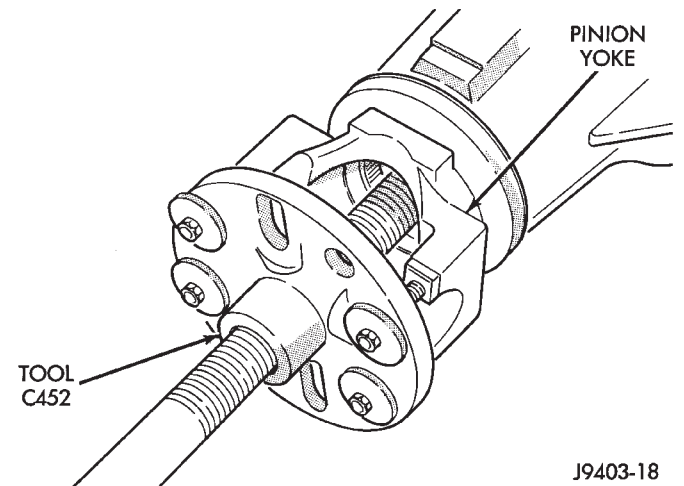

Fig. 24 Pinion Yoke Removal
- (1) Remove differential from the axle housing.
- (2) Mark pinion yoke and propeller shaft for installation alignment.
- (3) Disconnect propeller shaft from pinion yoke. Using suitable wire, tie propeller shaft to underbody.
- (4) Using Yoke Holder 6719 to hold yoke and remove the pinion yoke nut and washer.
- (5) Using Remover C-452, remove the pinion yoke from pinion shaft (Fig. 24).